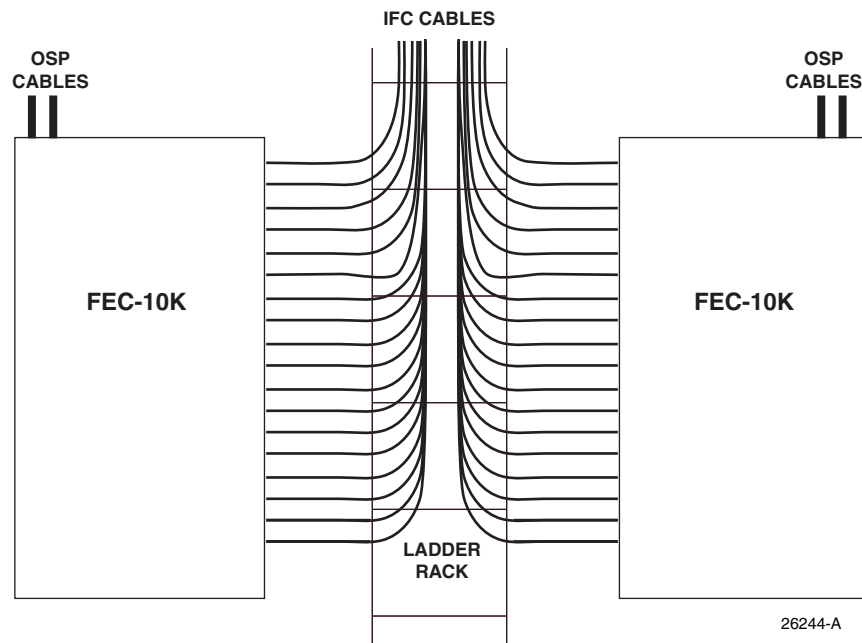
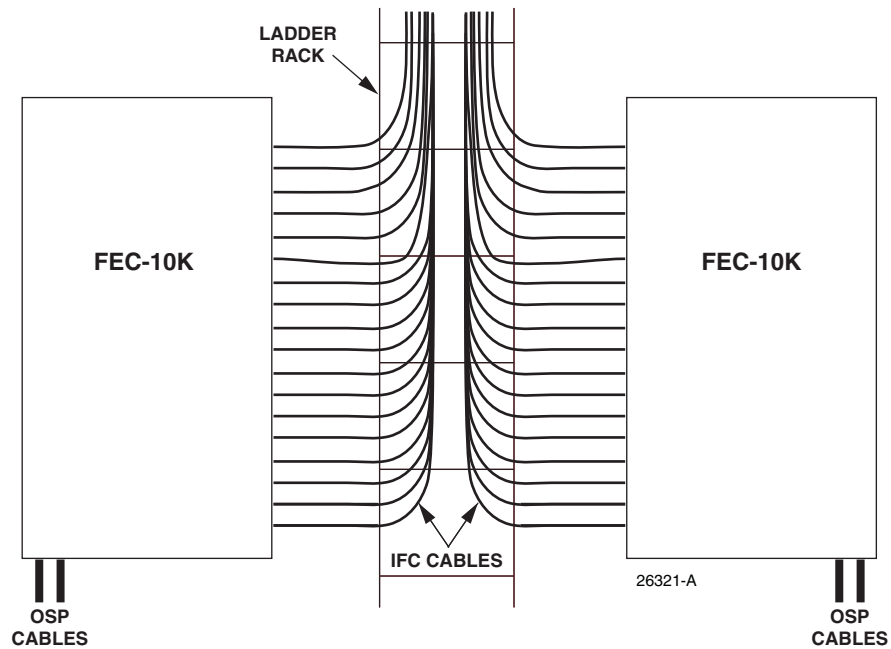

Figure 4. Cable Entry from Above
Figure 5. Cable Entry from Below
1. Before mounting each FEC-10K, determine what the configuration will be for the particular cabinet being installed. Cables can enter from above or below the rack, and from either side. Figure 4 and Figure 5 show two recommended configurations.